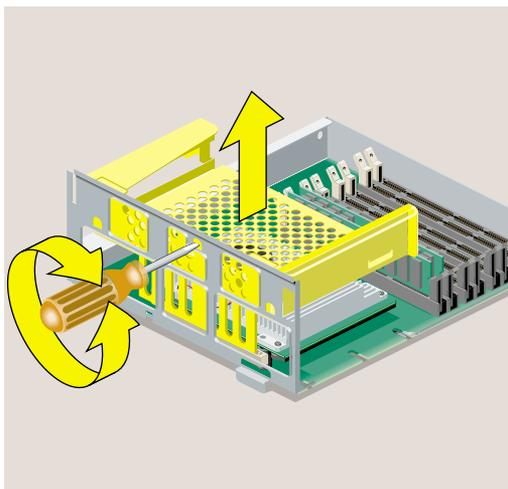

Figure 5-11 Releasing the PCI tray From the System Module
- Insert a screwdriver in the small opening shown in Figure 5-11. Use a twisting motion to release the PCI connector from the slot on the system module. Then use an up and down motion to release the PCI tray.